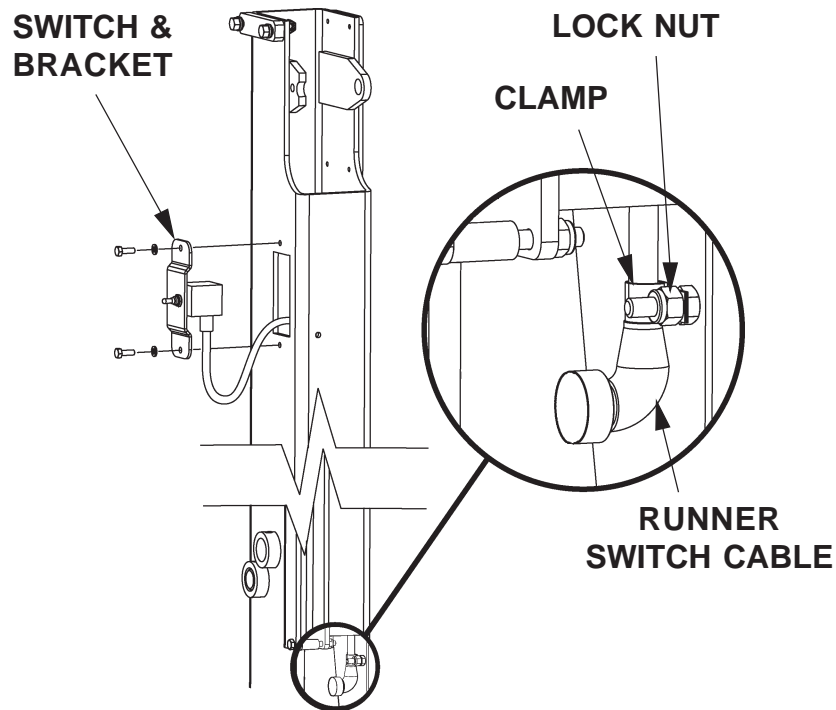

FIG. 11
12. If RH Runner is being replaced, unbolt Switch Mounting Bracket from Runner by removing (2) bolts and (2) lock washers (**FIG. 11**). Loosen and remove lock nut holding clamp and Runner Switch Cable to Column (**FIG. 11**). Pull Runner Switch, Bracket, and Cable from runner.
13. If RH Runner is being replaced, re-install Runner Switch, Bracket, and Cable in runner as follows. Make a wire fish by feeding 8 feet of small guage wire through upper switch hole in Runner (**FIG. 11**). Pull wire through channel at lower end of Column. Leave enough wire at upper hole to attach to Switch Cable, and leave enough wire to pull at the lower end of Runner. Tie upper end of wire fish to Runner Switch Cable connector . Pull connector with cable through Runner until connector exits lower end of column. Bolt Switch Mounting Bracket to Runner with (2) bolts and (2) lock washers (**FIG. 11**). Re-install clamp and lock nut holding Runner Switch Cable to Column (**FIG. 11**).